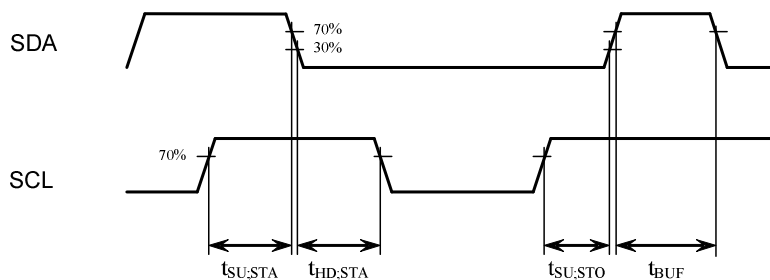
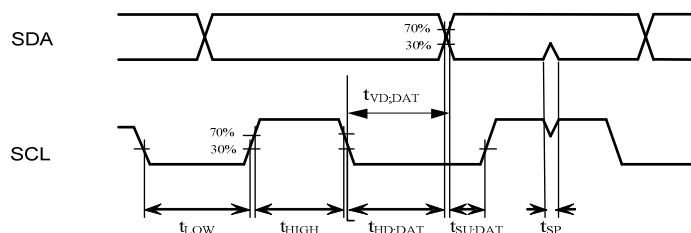

Figure 5 I2C Start and Stop timing
Figure 6 I2C Data timing
- (i) All timing specifications, Figure 5 and Figure 6, refer to voltage levels (V_{IL} , V_{IH} , V_{OL}) defined in Table 5.